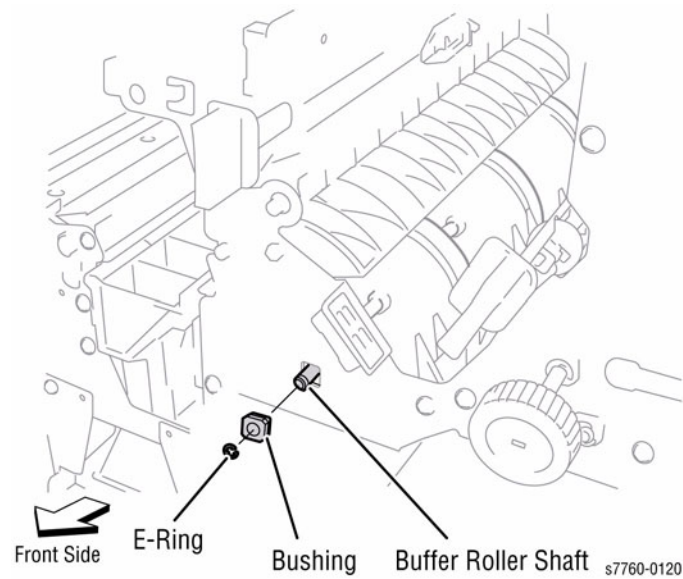

Figure 4 Removing the Buffer Roll
- b. Pull Buffer Roller Shaft out to remove the E-Ring and Bearing (Figure 4).